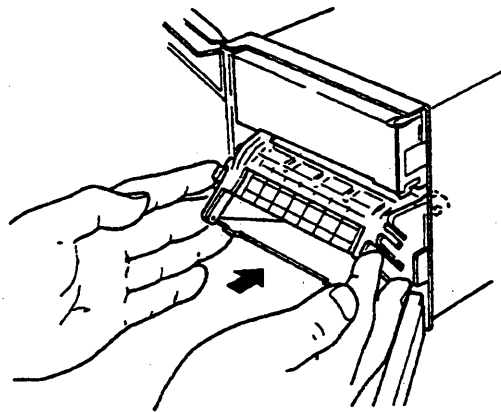

Figure 3-6. Loading the Chart-5
10. Replace the chart paper compartment back into the unit. Slide the protruding knurls of the chart paper compartment into the cutout grooves located on the support brackets. Push/swing the compartment into the unit until the lock tabs click shut (see Figure 3-6).